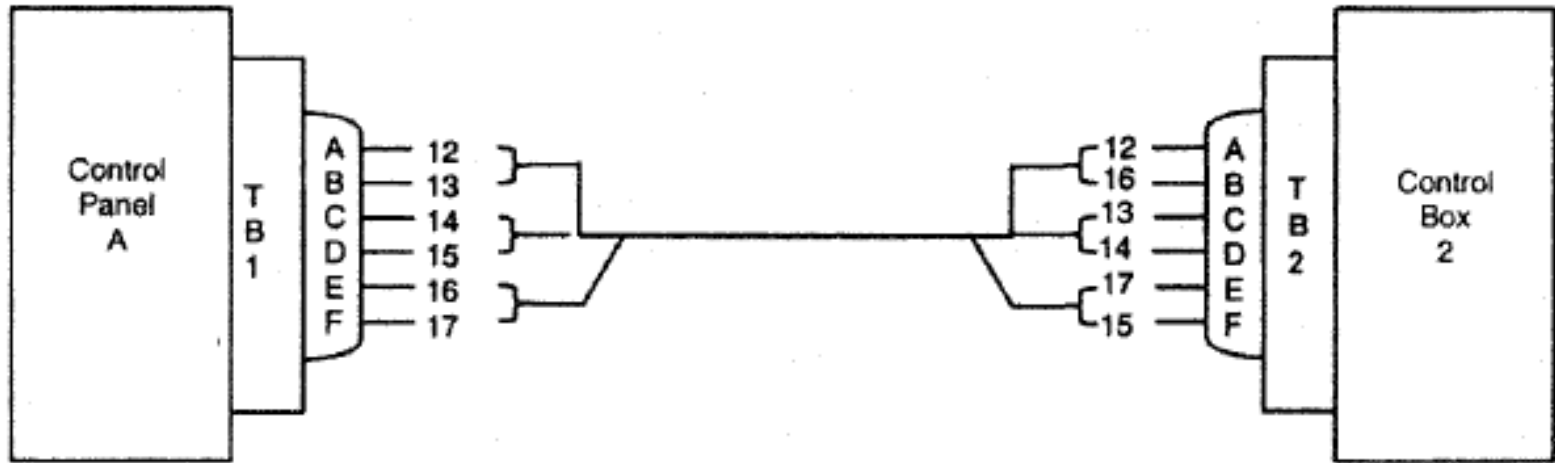

Fig. PF-4-1-34 Wiring Diagram
- **Table PT-4-1-8** shows a simple example of a cable schedule that is read in conjunction with the wiring diagram shown in **Figure PF-4-1-34**.